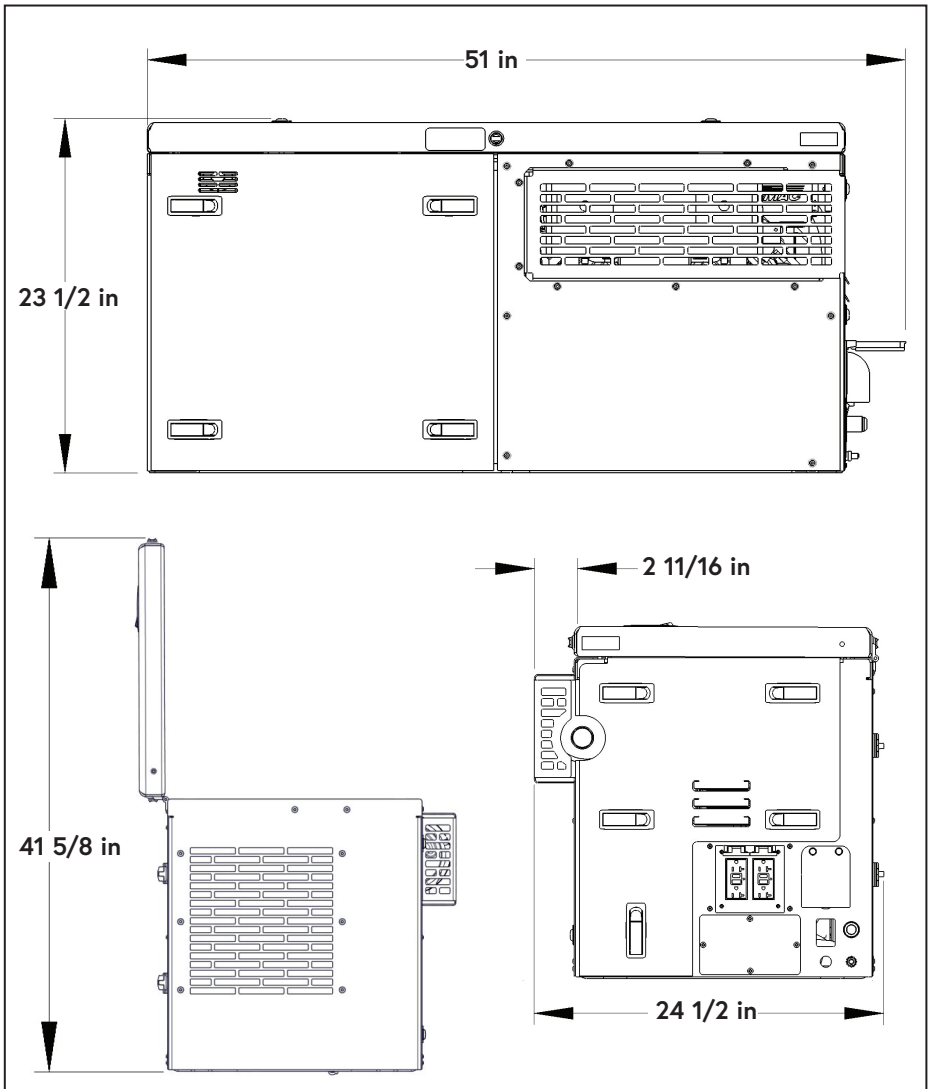

Figure 2 — External dimensions
- Locate a suitable mounting position for the Gas MF. Place the unit in its intended location and check clearances to any other objects (Figure 2).